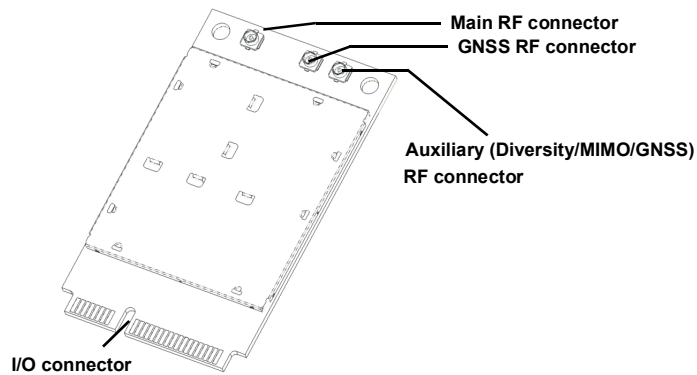

Figure 3-1: Module Connectors (Preliminary shield design, subject to change)
- Use Hirose U.FL connectors (3 mm x 3 mm, low profile; model U.FL #CL331-0471-0-10) to attach antennas to connection points on the module, as shown in Figure 3-1 on page 31.
- Connect to system ground using the two mounting holes at the top of the module (shown in Figure 3-1 on page 31).